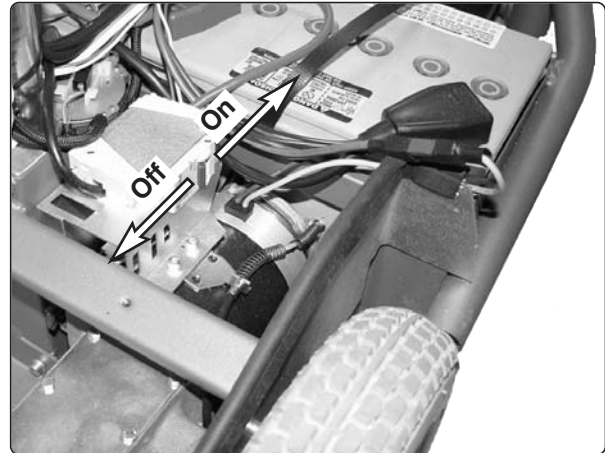

Fig.7. Circuit breaker/Battery isolator.
4. Put the circuit breaker to the “OFF” position, see fig. 7.
4. Put the circuit breaker to the “ON” position, see fig. 7.